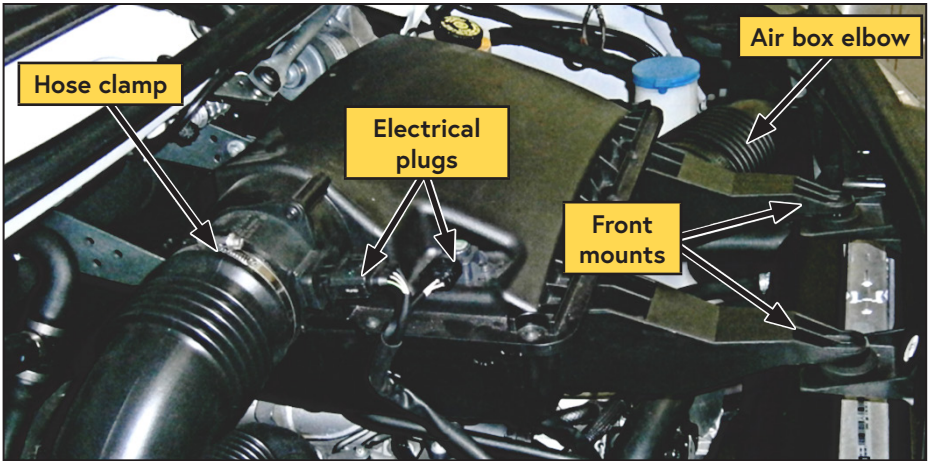

Figure 4 — Remove air box
- Remove the airbox located in the center of the engine bay. Remove the 2 electrical plugs, the hose clamp, airbox elbow and pull the 2 front mounts straight up. Move the assembly out of the way (Figure 4).